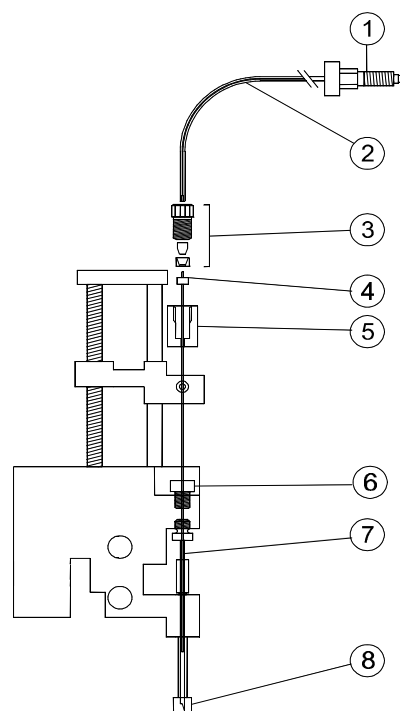

Figure 2.3 Needle assembly
- sample needle: placed inside the hollow prepuncturing needle; used for the actual transport of sample. Different types of needles can be used here (refer to section 2.6, and options mentioned in Appendix D). If a needle with deviating diameter is used, a different air outlet nut (see figure 2.3, number 6) must be used that matches the injection needle.
2. Remove the standard air outlet nut (figure 2.3, number 6) and replace it by the nut supplied with the optional sample needle.
A sensor (figure 2.3, number 8) takes care of plate availability detection, plate height detection and vial detection.